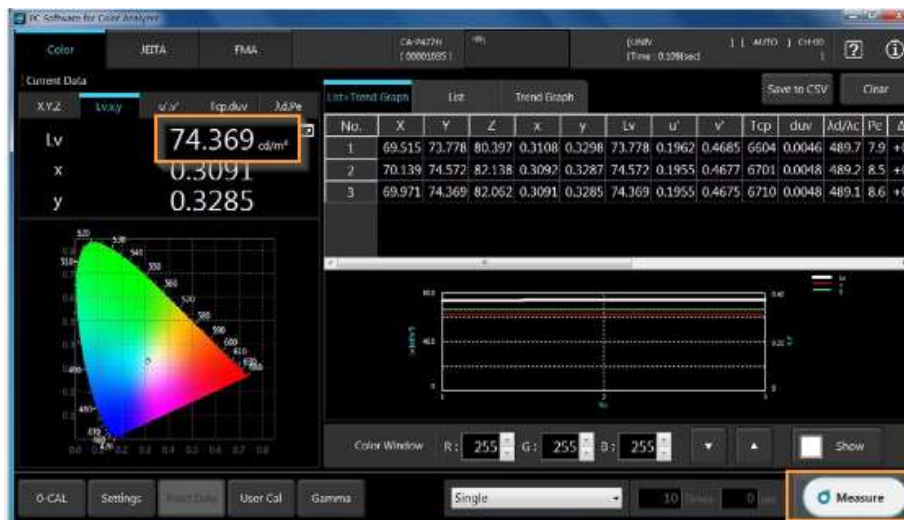

Figure 8 Measurement
4. Click on the “Measure” button and record the measured luminance (Figure 8). Adjust the slider in the Brightness Profiler program until the luminance reach the target specified.